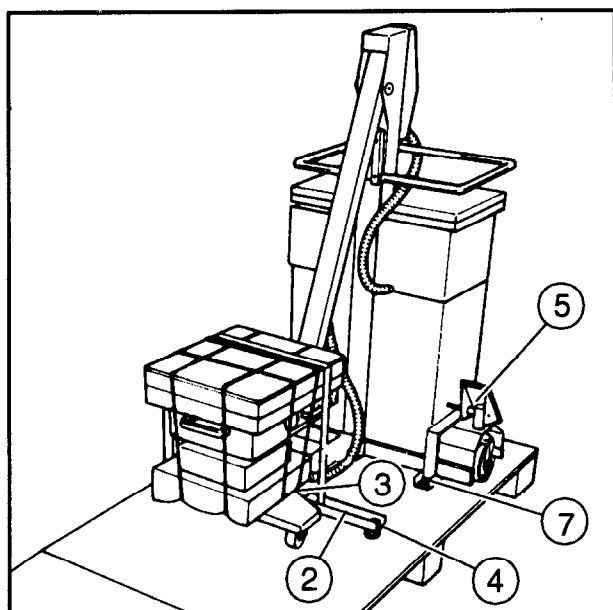

Fig. 2
- Remove the 4 Allen screws (2/Fig. 2, 17 mm spanner opening ), the strap (3/Fig. 2) and the U-shaped rail (4/Fig. 2).
- Remove the 2 Allen screws and the bracket (7/Fig. 2, 17 mm spanner opening) from the stand trolley on the right and left side.